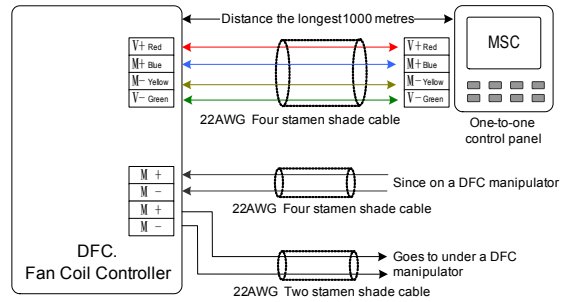

Figure 1 MSC operation panel with DFC. FCU controller
- Connect the display panel and fan coil controller by follow the pin number and wire color in Figure 1.